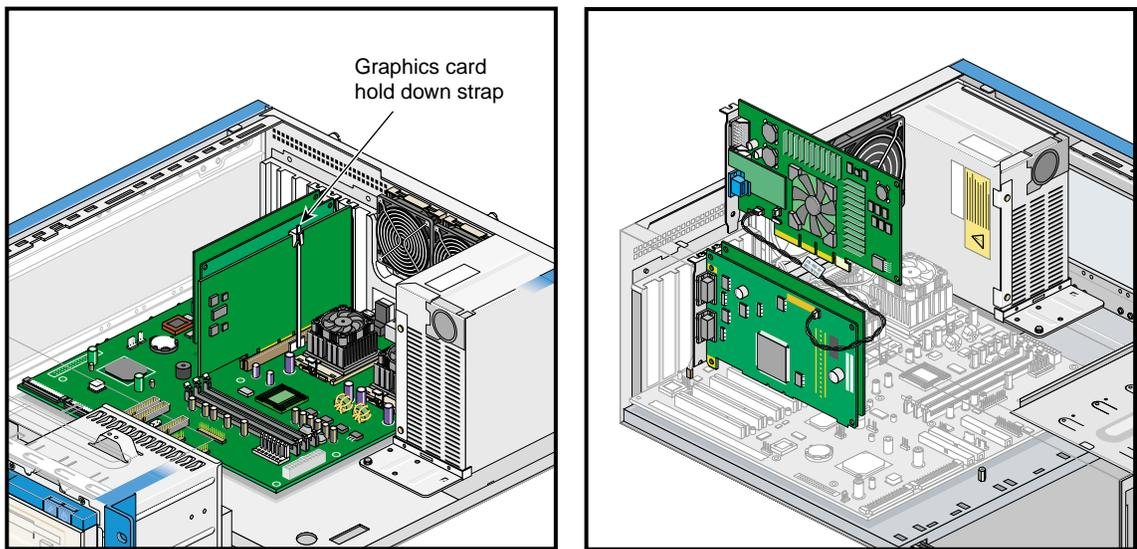

Figure 10 Graphics Cluster Series 12 Graphics Card Cabling
2. For Series 12 nodes, detach the twisted-pair cable from its connector on the graphics card; refer to Figure 10.